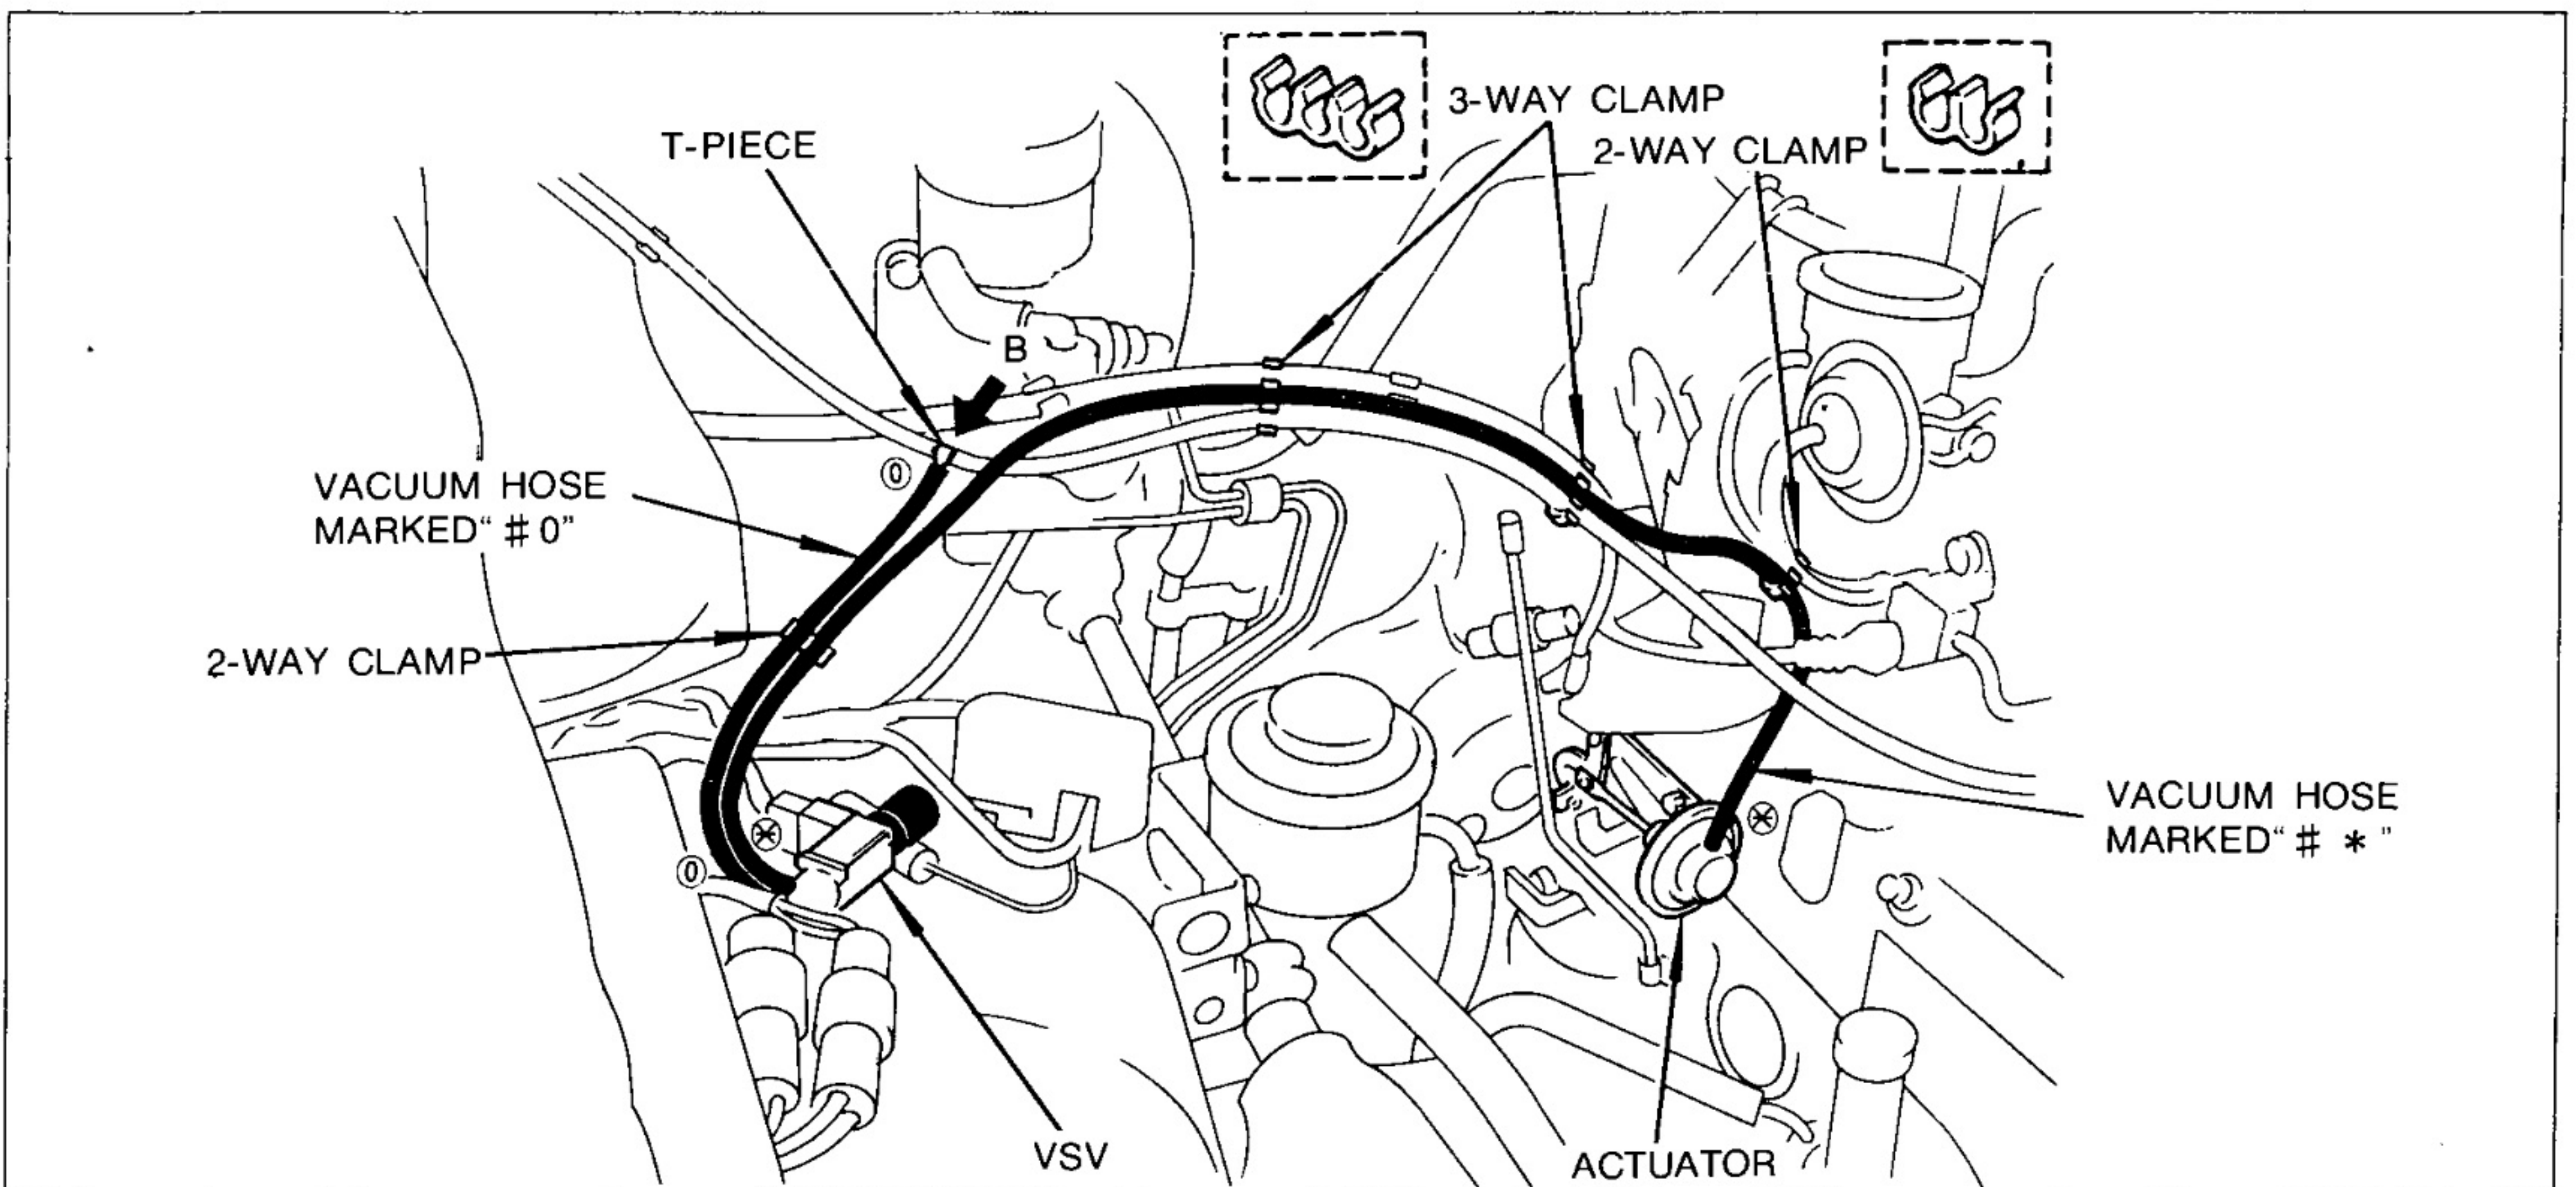

Fig.79
- (a) Cut the original vacuum hose at "B" as shown in Fig. 79.
- (c) Connect the original vacuum hose and vacuum hose marked "#0" using a T-piece as shown in Fig. 79.
- (e) Fasten the vacuum hose using the four clamps as shown in Fig. 79.